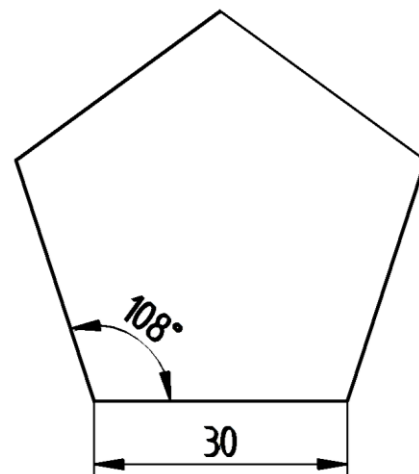

Fig. 1.43 Pentagon
Solution Figure 1.43 Computer Output
7. Select dimension command  select the required line and geometry to dimension the pentagon as shown in Fig. 1.43.